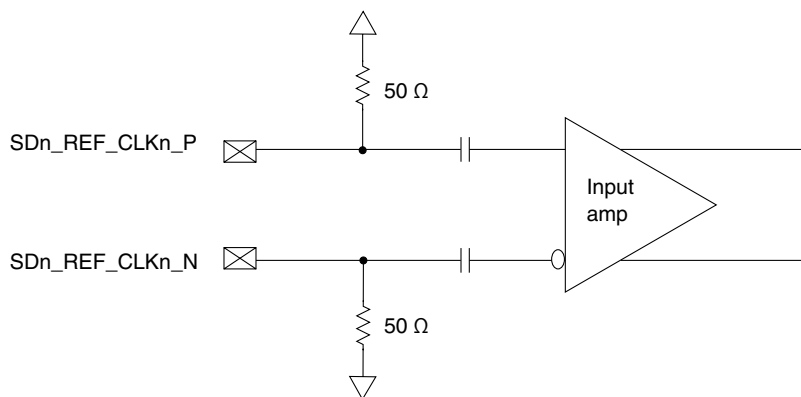

Figure 30. Receiver of SerDes reference clocks
- The SDn_REF_CLKn_P and SDn_REF_CLKn_N are internally AC-coupled differential inputs as shown in Figure 30. Each differential clock input (SDn_REF_CLKn_P or SDn_REF_CLKn_N) has on-chip 50-Ω termination to SGNDn followed by on-chip AC-coupling.
- For an external DC-coupled connection, as described in Figure 30, the maximum average current requirements set the requirement for average voltage (common mode voltage) as between 100 mV and 400 mV.